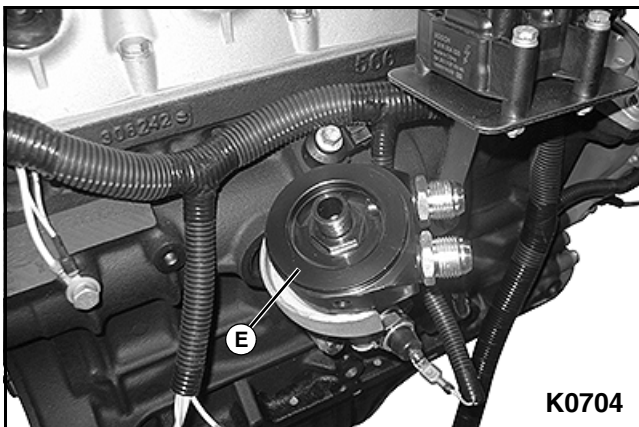

Figure 5-6
5. Wipe the oil filter installation surface (E) clean with a dry cloth. Inspect the installation surface for damage. **See Figure 5-6.**